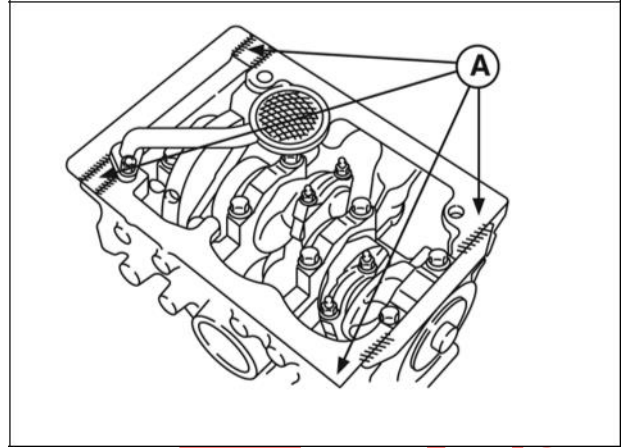

Figure 20
12. Remove flywheel holder (A, Figure 20) AND install trigger assembly and wire (B).